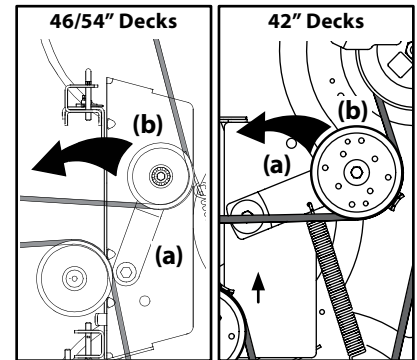
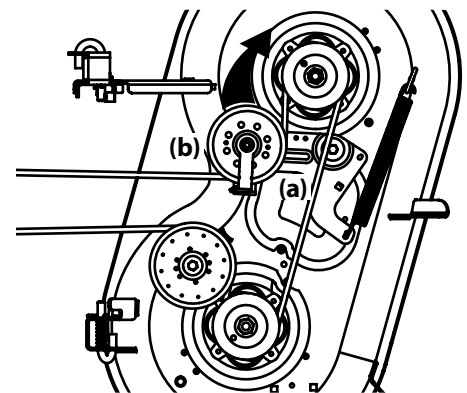

Figure 4-15
Figure 4-16
- Working from the middle of the tractor, pivot the idler bracket (a) and movable idler pulley (b) rearward on 42/46/54" decks and forward on 34" decks just far enough to lift the belt up and over the spindle pulley. See Figure 4-15 for 42/46/54" decks and Figure 4-16 for 34" decks.